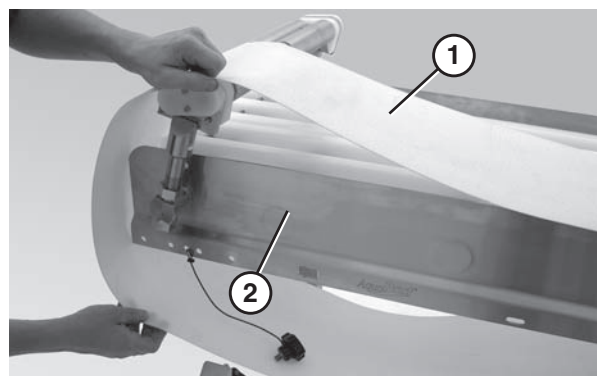

Figure 49
3. Slide the old belt (**Figure 49, item 1**) off the conveyor frame (**Figure 49, item 2**).